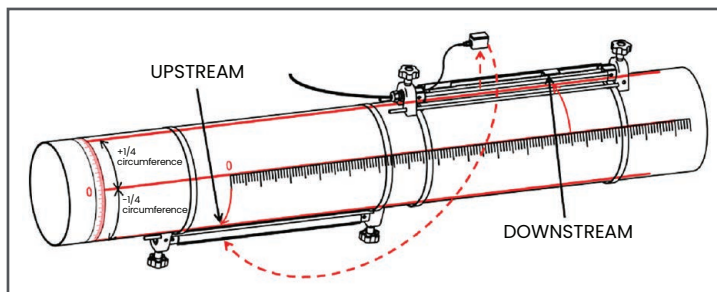

Figure 20: 1 Traverse Installation for Transducer Spacing >320 mm
For a one traverse installation with a calculated transducer spacing of >320 mm for a 1 MHz or 0.5 MHz transducer, two clamp-on fixtures are installed on opposite sides of the pipe. To install this configuration, refer to *Figure 20* below and complete the following steps:
- b. Remove the upstream transducer from the first fixture (see *Figure 20* below). Disconnect the transducer cable and route the cable into the second fixture.